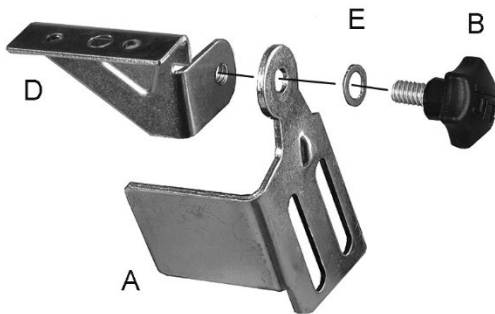

Figure 5: brackets to spark guards
Refer to Figure 5.
**Note:** Spark guards (A) and eye shield brackets (D) are marked **L** for left side assembly and **R** for right side assembly.
1. Assemble the left spark guard and eye shield bracket using Figure 5 as a guide. Make sure spark guard and bracket are both marked **L**.